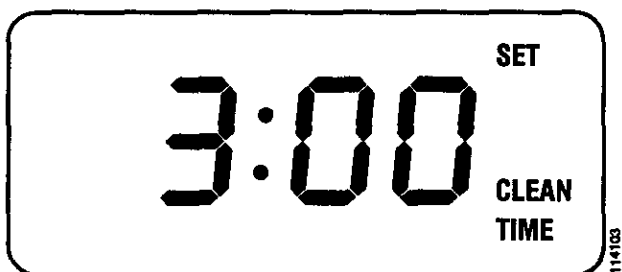

Figure 13.
8. If you wish to change to a cleaning time of other than 3 hours depress the **COOK TIME** button. A "beep" will sound and the display will show **SET - CLEAN - TIME** on the right hand side of the display as shown in Figure 13. The programmer setting is initially for a duration of 3 hours. The cleaning time can be set for 2 hours and 30 minutes to 4 hours depending on how soiled the oven cavity has become: